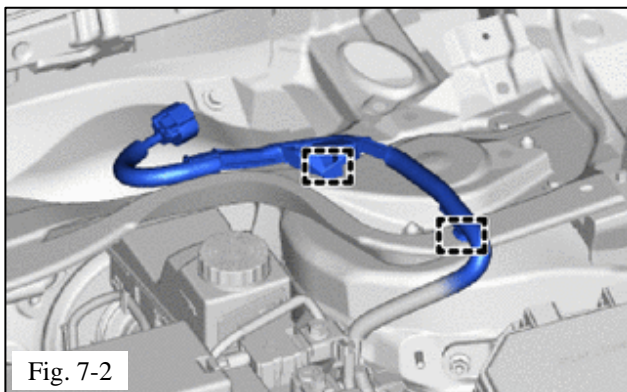

Fig. 7-2
- (c) Engage the 2 clamps to install the wire harness to the outer cowl top panel sub-assembly (Fig. 7-2).
- (1) Engage the 2 clamps to install the wire harness to the outer cowl top panel sub-assembly (Fig. 7-2).